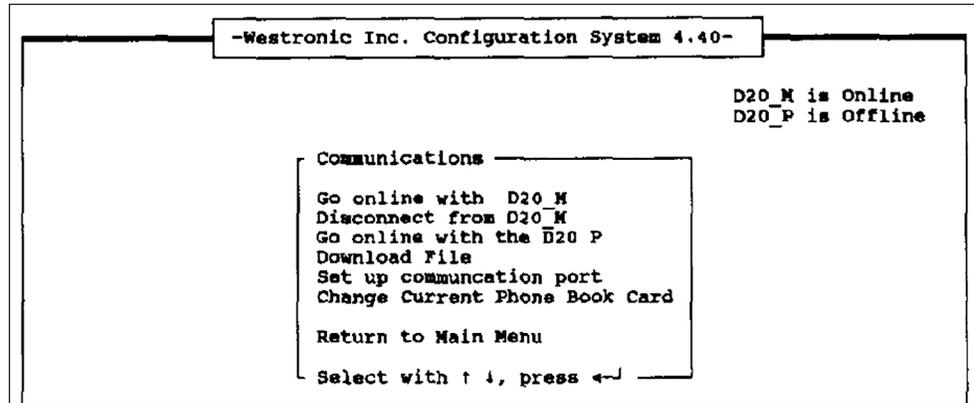

Figure 27. The *Communications* screen.
- (b) A third **D20M>** prompt will appear; press the <F1> key. The *Communications* screen will open. See Figure 27 on page 20.